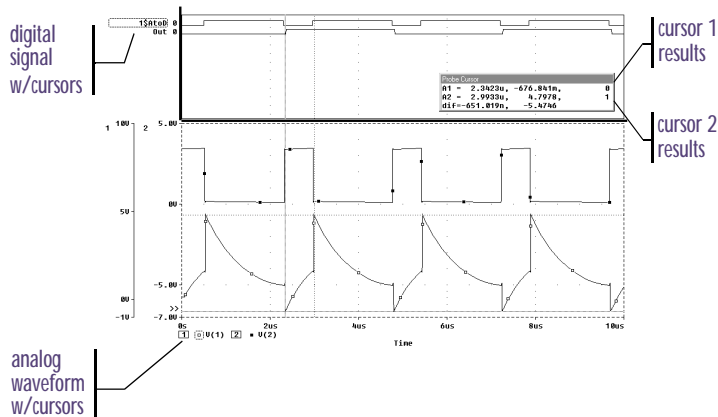

Figure 122 *Cursors positioned on a trough and peak of V(1)*
Figure 122 shows both cursors positioned on the Out signal in the digital area of a plot, and both cursors on the V(1) waveform in the analog area of the plot.
The mouse buttons are also used to associate each cursor with a different trace by clicking appropriately on either the analog trace symbol in the legend or on the digital trace name (see Table 2 on page 17-514). These are outlined in the pattern corresponding to the associated cursor's crosshair pattern. Given the example in Figure 122, right-clicking the V(2) symbol will associate cursor 2 with the V(2) waveform. The analog legend now appears as shown below.